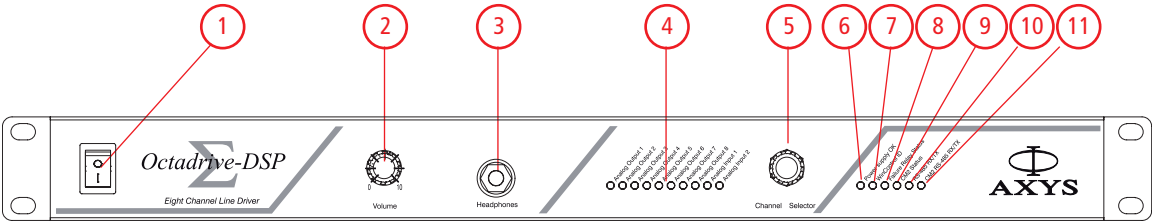

fig.2: Front panel view
*Numbers in square brackets refer to the figs. 2,3 & 4 on pages 8 & 9.